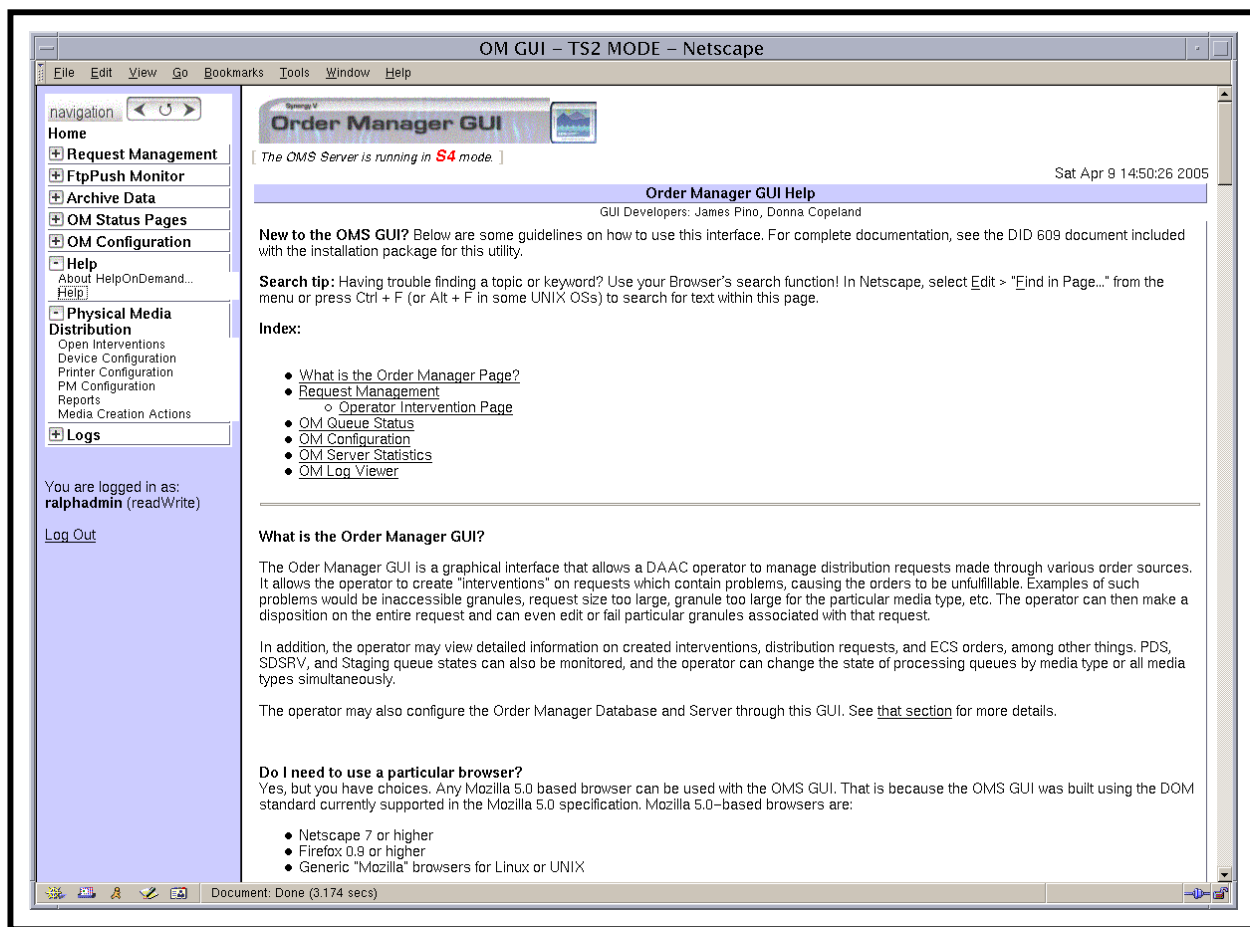

Figure 70. OM GUI Help Page
- For help on a particular topic the **Help** link in the navigation frame of the **OM GUI** causes the **Help** page (Figure 70) to be displayed.